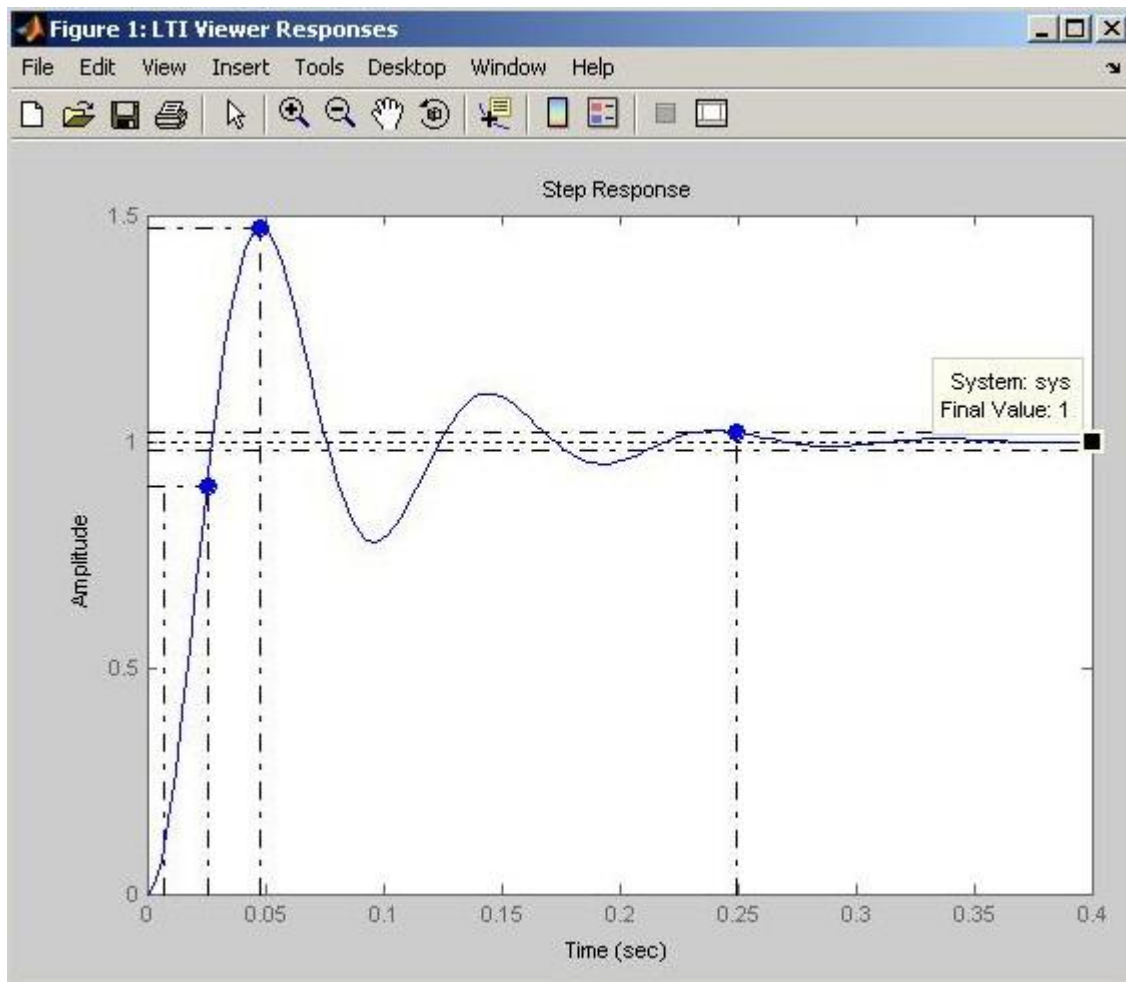

Fig. M5.6 LTI response with text and graphics editor toolbar
- **Add text and graphics:** Under the **File** menu, choose **Print to Figure**. An additional figure with toolbar will open (Fig. M5.6). The toolbar of this figure has additional tools for adding text, arrows, lines, legends, and to rotate the figure.